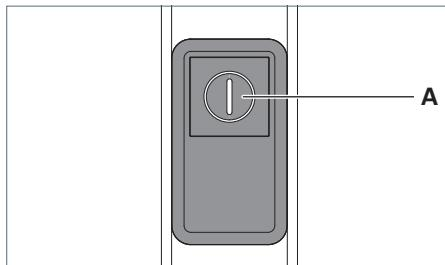

Fig. 27: Control element.
- ▶ Press the key **A** seven times quickly in succession, see Fig. 27.
- ▶ Press the key **A**, see Fig. 27.
- ▶ Press the key **A** and keep this key pressed, see Fig. 27.